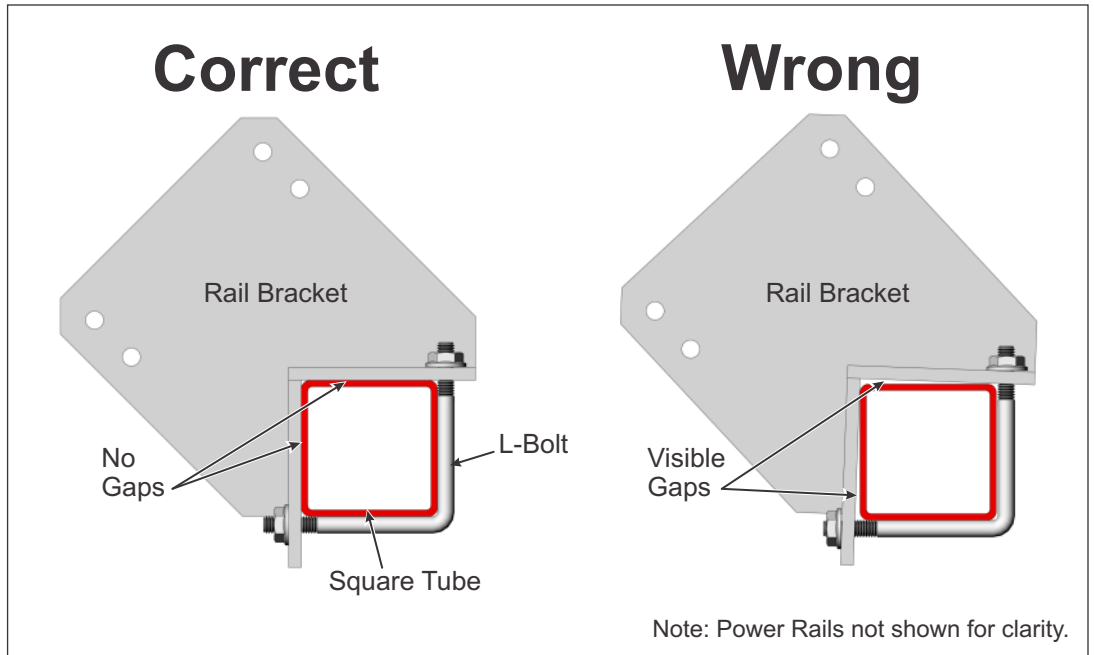

Figure 4-6: Alternate Tightening of L-Bolts to Close Gaps
- D. Continue to tighten the Flange Nuts, alternating between the four so the L-Bolts and Rail Bracket are drawn evenly against the Horizontal Pipe. (See Figure 4-6) **Torque all four to 60-70 ft.-lbs.**